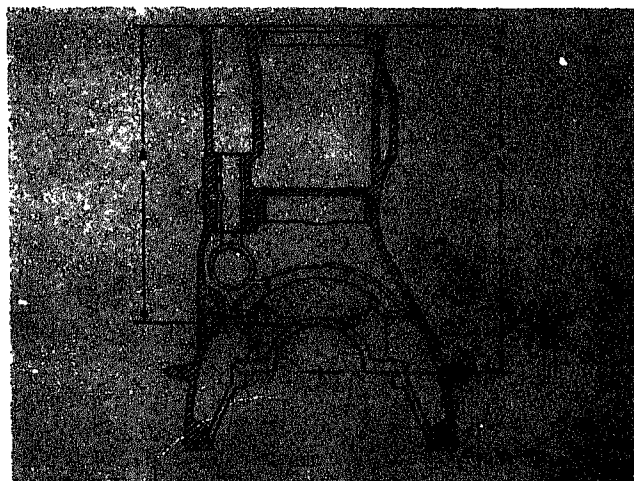

Fig. 1-1-17. Cylinder block height
3. Check distance from centerline of main bearing bore to top of block, Figs. 1-1-17 and 1-1-18.
Table 1-1-11: Cylinder Block Height From Main Bearing Centerline (B, Fig. 1-1-17)
Table 1-1-12: Cylinder Block Height From Alignment Bar (A, Fig. 1-1-17)